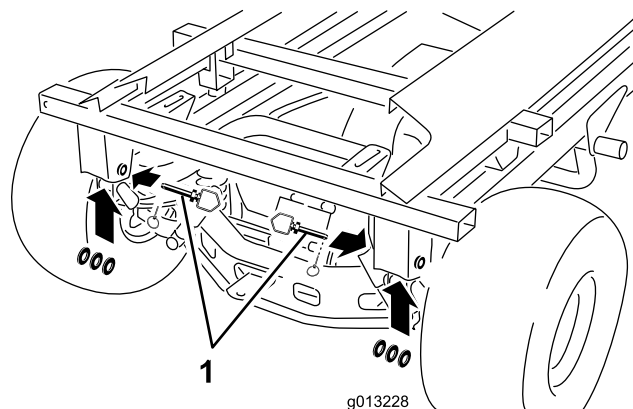

Figure 2
10. Remove the rear lynch pins, hitch pins and washers (Figure 2).